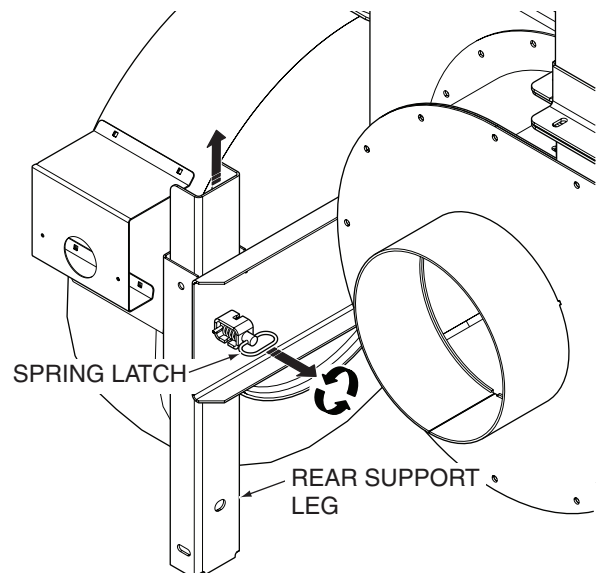

Figure 4-3. Raising the Rear Support Leg
8. Pull and turn the spring latch to unlock the pin securing the rear support leg in the lowered position. See Figure 4-3.